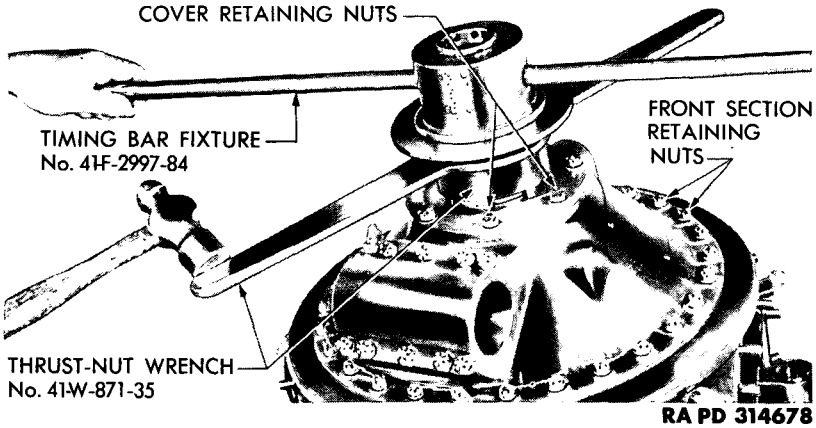
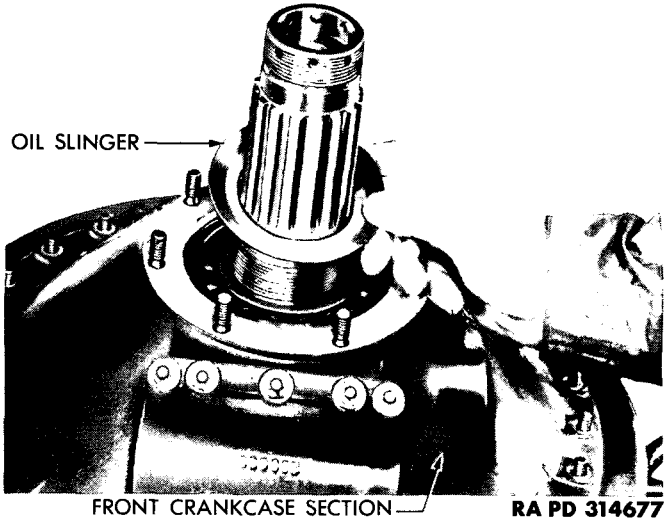

Figure 59 – Removing Thrust Bearing Retaining Nut
Figure 60 – Removing Oil Slinger
q. Remove Thrust Bearing Retaining Nut. Install special wrench (41-W-871-35) on thrust bearing retaining nut. Turn nut off shaft while holding crankshaft stationary with timing bar, or another suitable bar (fig. 59).
r. Remove Front Crankcase Section. Cut and remove safety wires from 7 nuts holding front crankcase section cover to front crankcase section (fig. 59). Remove nuts and flat washers. Lift off cover, laminated shim, and oil slinger (fig. 60). Cut and remove safety wires from 28 nuts holding front crankcase section to center section (fig. 60). Remove nuts and flat washers. Using a special